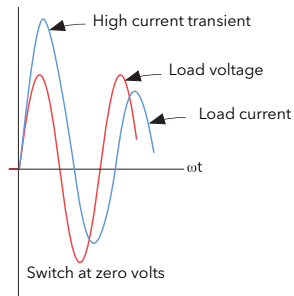

Figure 91 Delayed trigger definition
- Delayed Trigger** Appears only if Mode = Burst, Soft Start = Off, and Load Type = TxFormer. Delayed Trigger specifies the triggering delay, in phase angle, when delivering power into a transformer load. Used to minimise inrush current. the value is configurable between 0 and 90 degrees inclusive (Figures 91).